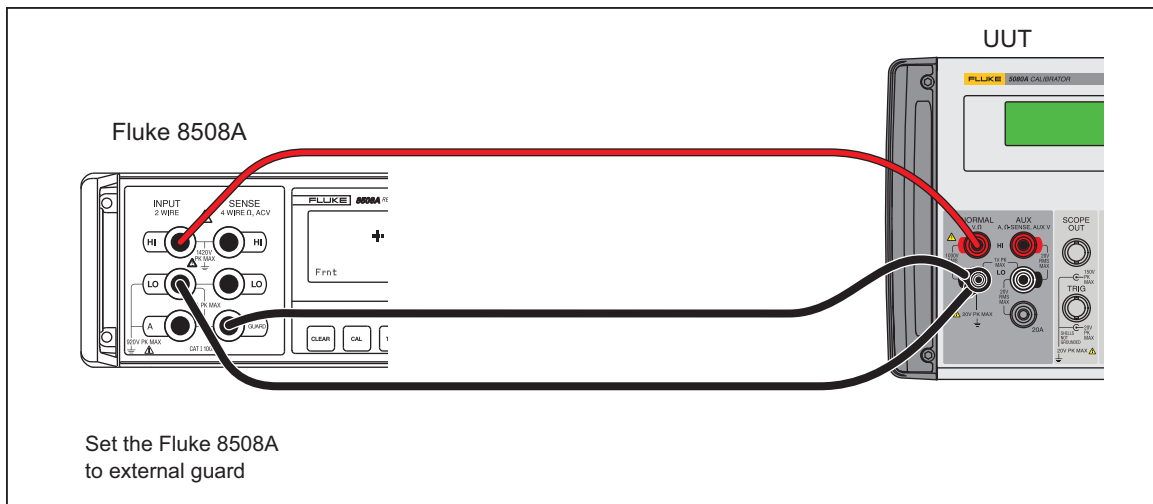

Figure 7. DC Voltage Adjustment Setup
4. Connect the test equipment as shown in Figure 7.